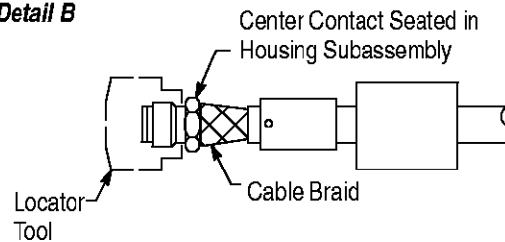

Figure 3
the conductor until it rests firmly against the solder gage. See Figure 3, Detail A. Remove the solder gage from the cable. Remove excess solder and splatter.
5. Insert the center contact into the back of the housing subassembly until the center contact is seated firmly. Make sure that the braid does not enter the housing subassembly. See Figure 3, Detail B.